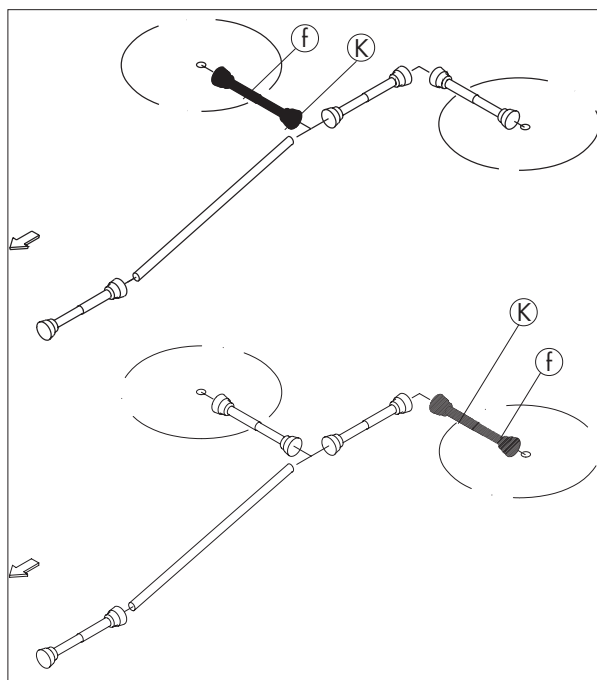

Fig. 3-25
The two short cardan shafts (K) leading to the rotary units have to be mounted so that the safety clutch (f) is fixed to the rotary unit (fig. 3-25 and 3-26).